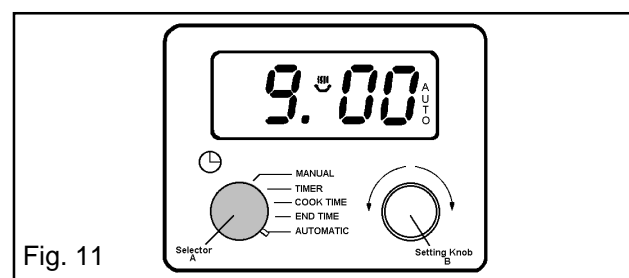

Fig. 11
Alternatively, turn selector (A) to 'Automatic'. The time of day will appear in the display. Fig. 11. At any time you can turn the selector (A) to 'End Time' to see the time remaining.